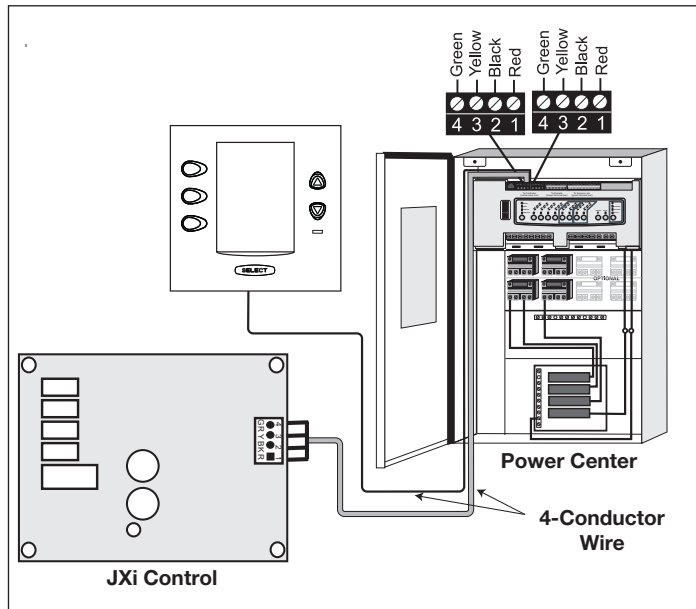

Figure 18. Jandy JXi Heater Connection to Power Center
2. Run a 4-conductor cable from the JXi heater or the Air Energy heat pump power interface red, 4-pin connector to the power center red, 4-pin connector (see Figure 18).